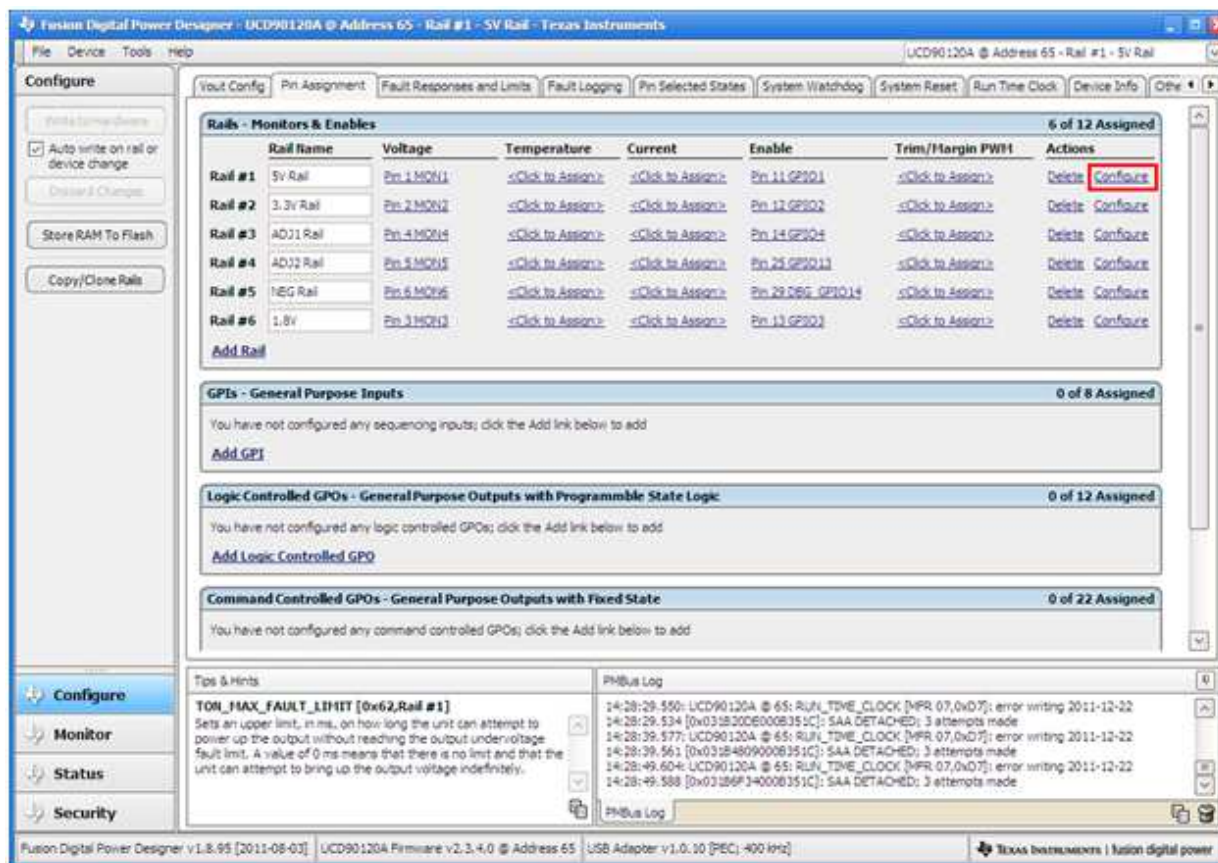
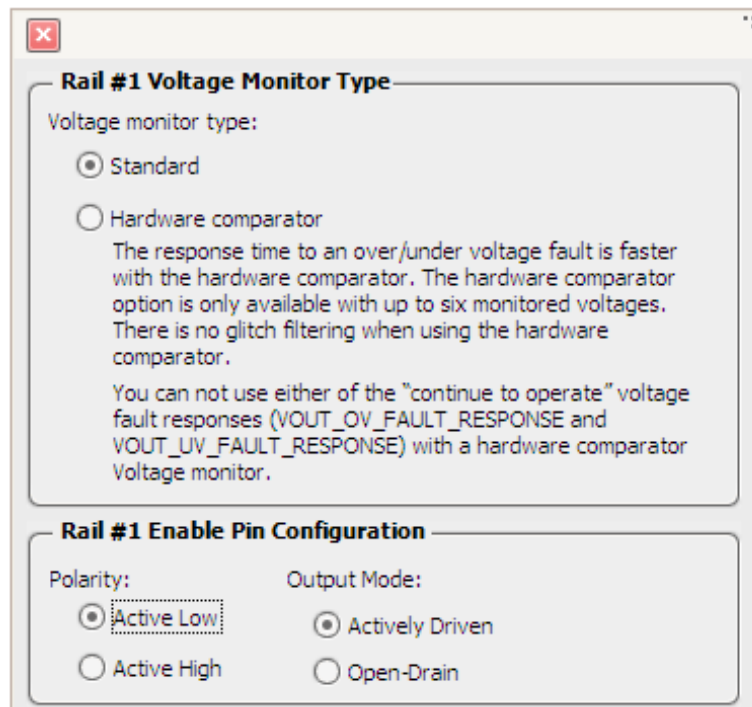

Figure 3. Pin Assignments For Supplies, Enables, and Monitoring
Figure 4. Enable Polarity and Output Mode Type
Different configurations are possible with the TSW2200, notably changing the enable settings so the EVM powers up with all supplies off or all supplies on. Configuration of active-low or active-high enable settings for each supply as well as the pin assignments for monitoring and enabling are shown in the pin assignment screen, Figure 3.
Pin assignments are made for the rail name using the pin monitors, as seen in the Voltage column in Figure 3. These are preset and must not be changed as this is a permanent pin configuration in the hardware. Because the negative regulator's output is -5 V, the monitor pins of the UCD90120A cannot support a voltage outside the range of 0 V to 2.5 V. In order to eliminate an extra inverter for purposes of converting the -5 V to the required monitor voltage range, no monitoring is provided for the -5 V supply.
The enables are also preset in the hardware and must not be changed from the settings shown in Figure 3. All supplies have an enable pin connected and used so that all the supplies can be sequenced. The last customizable pin assignment configuration is under the Configure link highlighted in Figure 3. When selecting *Configure*, the screen shown in Figure 4 appears and allows options for an active-low or active-high enable polarity as well as two types of output mode configurations. The output mode configuration is always actively driven.
under Configure in Figure 3 are changed to Mode 1 settings. Another write to hardware is done, and then all supplies are sequenced without turning the board off and on. When all boards need to be sequenced off by a specified delay setting, then all enable polarities can be reset to Mode 2 and a write to the hardware can be repeated. This then sequences all supplies off, based on the specified time for each supply.
3. Set the enable polarities as listed in Mode 2 from Table 3 (accessible in Configure menu as shown in Figure 3).